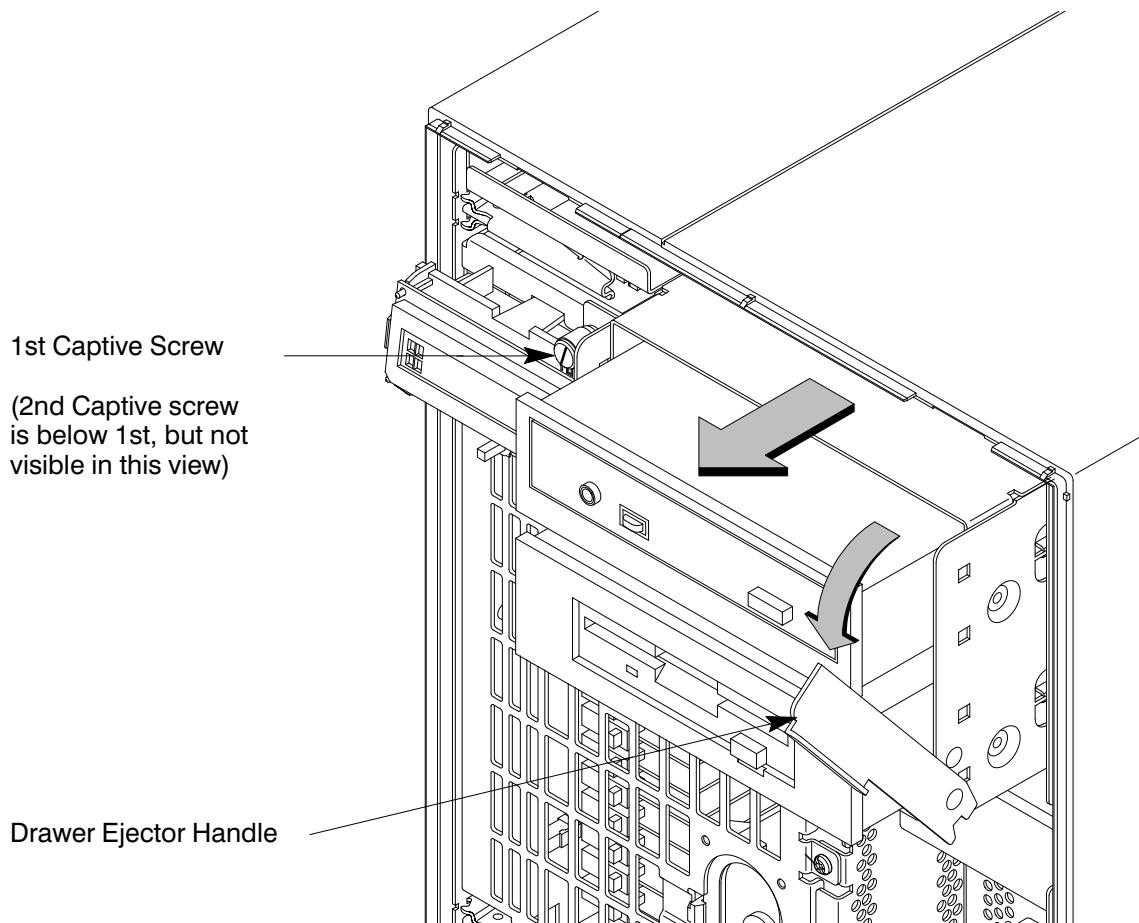

Figure A-17. Removing Storage Drawer from System Unit
- 2.** Unscrew the two captive screws on the left side of the Storage Assembly and pull down the drawer ejector handle on the right side of the Storage Assembly, as shown in Figure A-17.